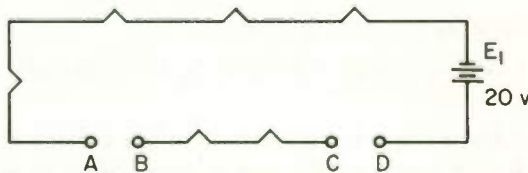

Fig. 32
3. The voltage from terminal B to terminal C in Fig. 32 is (a) _____ The voltage from terminal A to terminal D in Fig. 32 is (b) _____